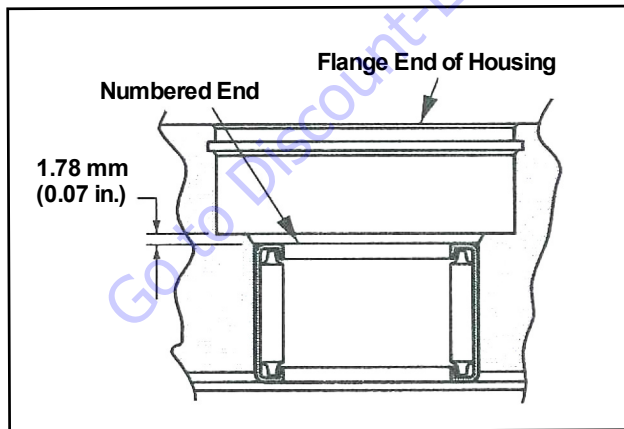

Figure 5-113. Housing Inspection
- Check the bearing (press fit) in housing. If needles remain in cage, move freely, and setting at the dimension shown in Figure 5-113., removal not required.
2. If necessary, press new bearing in housing to dimension shown in Figure 5-113. with the numbered end of bearing outward.